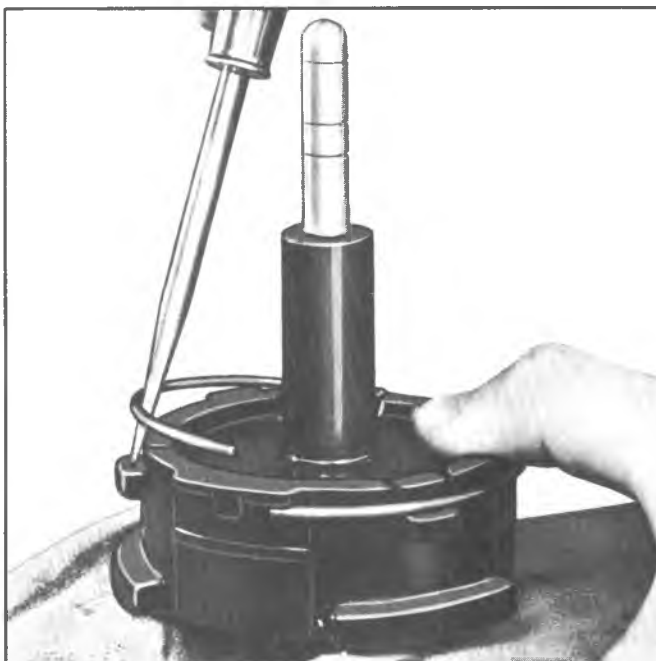

Fig. 13A--Installing Retainer Lock Ring
24. Secure with lock ring making sure ends of lock ring are set in place on the large divided lug of the power piston, one end on each side of lug (fig. 13A).